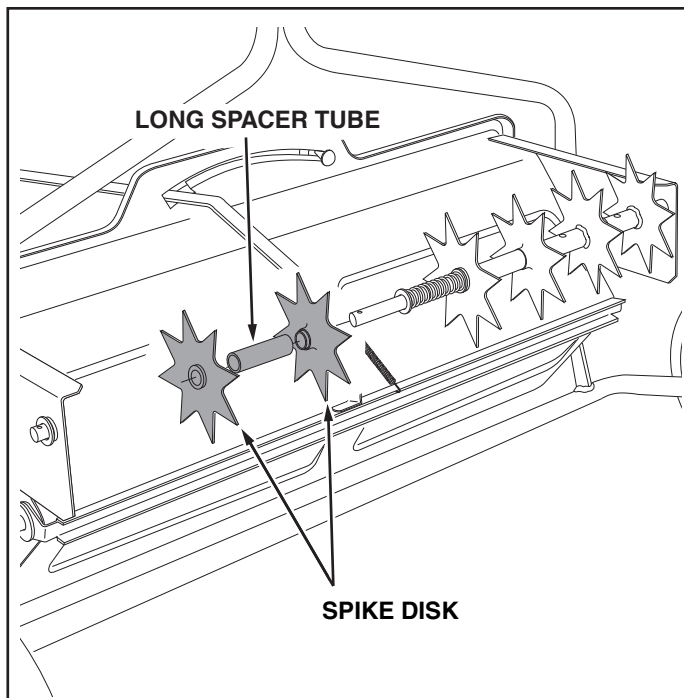

FIGURE 17
- Place two spike disks, separated by a long spacer tube, onto the shaft. Fit the long spacer tube onto the ends of the flanged bearings in the disks. See figure 17.